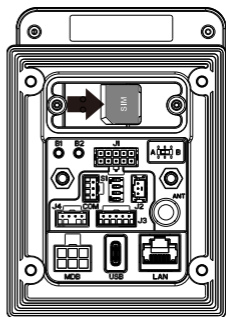

Fig.2
**Step 4:** Insert SIM card that you need(Fig.2).